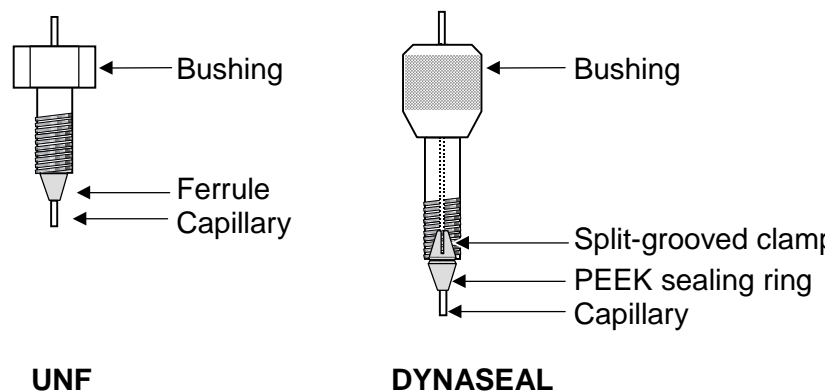

Fig. 10 Principle of the UNF and DYNASEAL connection systems
Fig. 10 shows a schematic diagram of the UNF and DYNASEAL connection system.
2. Push the bushing, the split-grooved clamping ring, and the sealing ring onto the capillary. Pay attention to the sequence and alignment of the fittings (see Fig. 10).
2. Push the bushing and the ferrule onto the capillary. Pay attention to the sequence and alignment of the fittings (see Fig. 10).
4. Hand tighten the bushing while pushing the capillary towards the port (see Fig. 10).